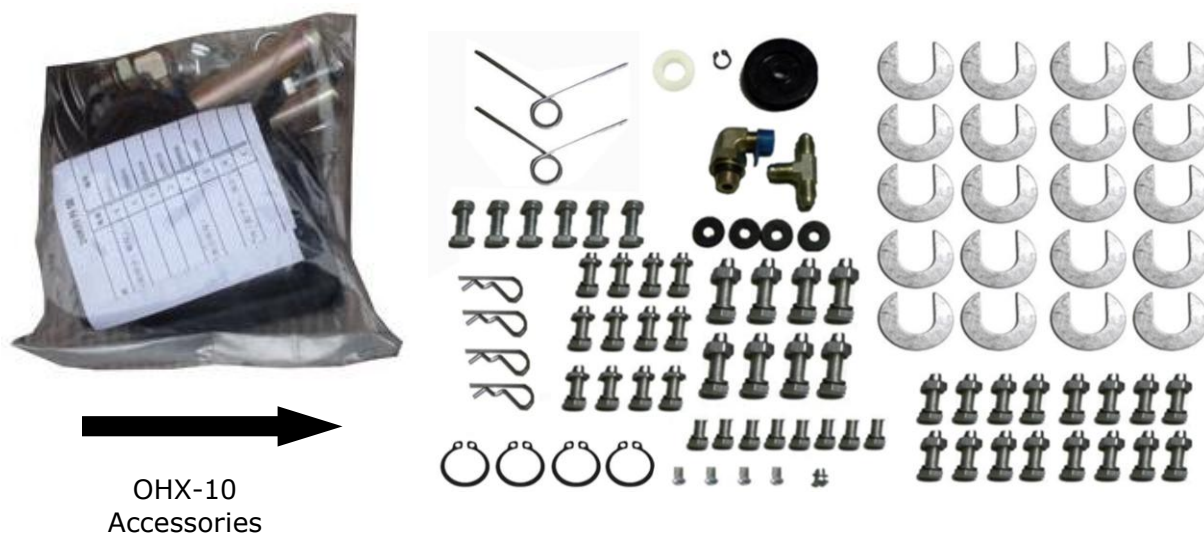

Fig. 13
5. Open the bag 1 of parts and check the parts according to parts box list (See Fig. 13,14).